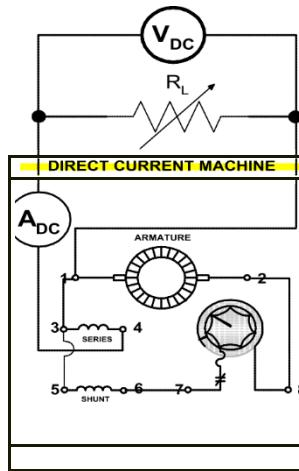

FIGURE 12.15
- Step 3: a) Using your EMS DC Motor/Generator, the Data Acquisition Interface (DAI) modules in the EMS workstation and Resistance Modules, connect the circuit shown in Figure 12.15.